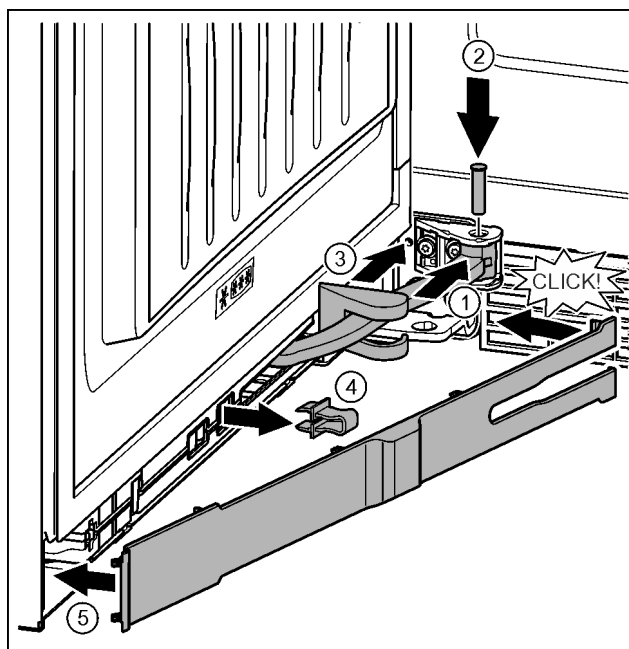

Fig. 46
- ▶ Turn the hinge in the mount. Fig. 46 (1)
- ▶ Insert the bolt with a T15 screwdriver in the mount and hinge. Make sure that the catch mechanism is sitting correctly in the groove. Fig. 46 (2)
- ▶ Push the bearing bracket cover along the hinge and fit on the mount. Fig. 46 (3)
- ▶ Remove the locking device. Fig. 46 (4)
- ▶ Position the panel on the handle side and swing it in. Fig. 46 (5)